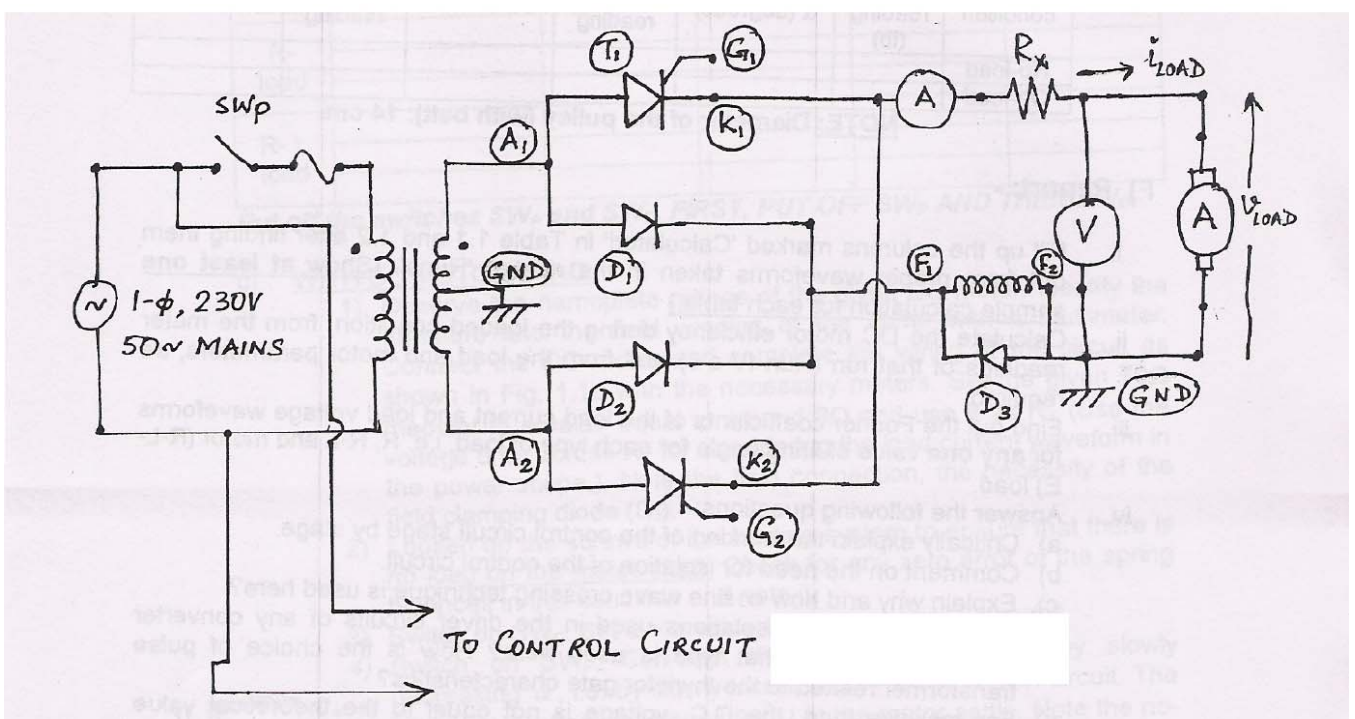

FIG.1.1b: POWER CIRCUIT OF THE 1- ϕ THYRISTORIZED FULL-CONTROLLED RECTIFIER WITH DC MOTOR (R-L-E) LOAD
- 1) Observe the nameplate ratings of the given DC motor. Identify the armature and the field winding of the same with a multimeter. Connect the DC motor and complete the wiring of the circuit as shown in Fig. 1.1b with the necessary meters. Set the given 70Ω rheostat to a value equal to around 1Ω and use it as R_x of Fig. 1.1b (Use the voltage drop across R_x for considering the load current waveform in the power scope.). Note the field connection, the necessity of the field clamping diode (D_3).